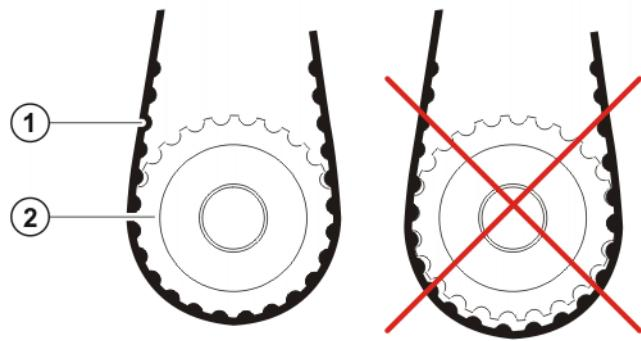

Fig. 9-5: Toothed belt and toothed belt pinion
4. Fit new toothed belts A5 and A6 in the in-line wrist. Ensure that the toothed belts mesh properly with the toothed belt pinions (>>> Fig. 9-5).